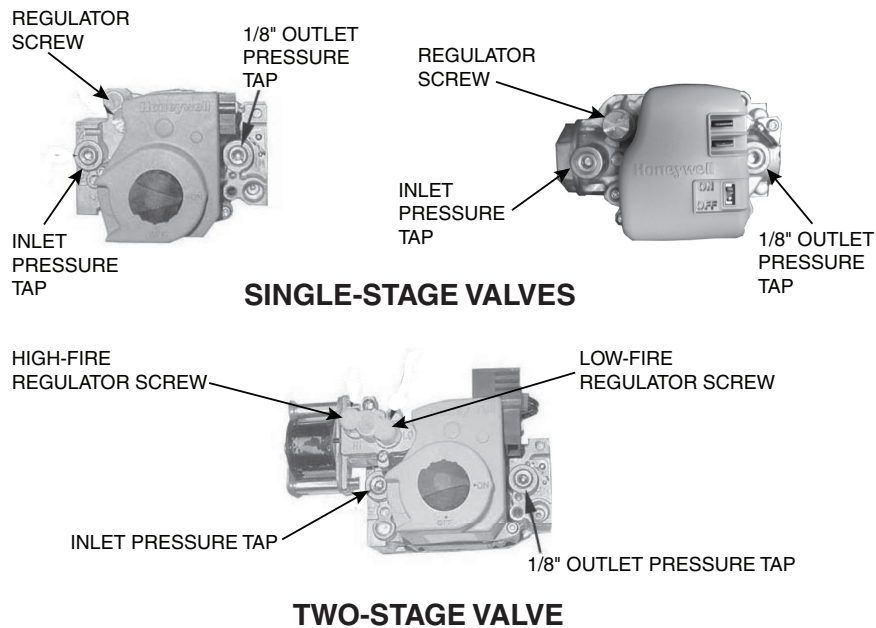

Figure 22. Combination Gas Valves
2. Connect manometer to 1/8-inch output pressure tap on valve (see Figure 22).
- If manometer reading does not indicate that valve outlet pressure is in accordance with Table 22, remove cap from regulator screw(s) (see Figure 22) and adjust pressure by turning regulator screw IN (clockwise) to increase pressure or OUT (counterclockwise) to decrease pressure.
4. Connect manometer to 1/8-inch output pressure tap on valve (see Figure 22).
- b. Remove cap from regulator screw (see Figure 22) and adjust pressure in accordance with Table 22 by turning regulator screw IN (clockwise) to increase pressure or OUT (counterclockwise) to decrease pressure.
- b. Remove cap from low-fire regulator screw (see Figure 22) and adjust pressure in accordance with Table 22 by turning regulator screw IN (clockwise) to increase pressure or OUT (counterclockwise) to decrease pressure.
10. Connect manometer to inlet pressure tap (see Figure 22). While heater is operating, measure inlet pressure, which should be between 5 and 13.5 IN WC for natural gas or between 11 and 13.5 IN WC for propane.